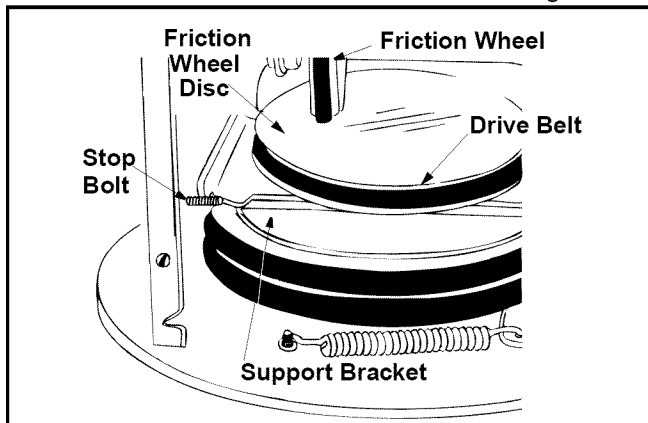

Figure 30
- Back out the stop bolt to allow the belts to slip between the bolt and auger pulley. See Figure 30.
- Back out the stop bolt until the support bracket rests on the auger pulley. See Figure 30.
NOTE: The support bracket must rest on the stop bolt after the new belt has been assembled. See Figure 30.